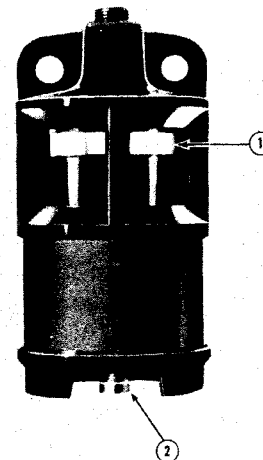

Fig. 2-14, (CGS-20). Air inlet restriction gauge
A mechanical restriction gauge is available to indicate excessive air restriction. This gauge can be mounted in air cleaner outlet or on vehicle instrument panel. The restriction indicator signals when to change cartridges. The red flag (1, Fig. 2-14) in window gradually rises as cartridge loads with dirt. Do not change cartridge until flag reaches top and locks in position. When locked, flag will remain up after engine is shut down. Change cartridge when flag locks at top. After changing cartridge, reset indicator by pushing reset button (2). Push button all the way in firmly; then release. If button sticks, repeat pushing slowly.